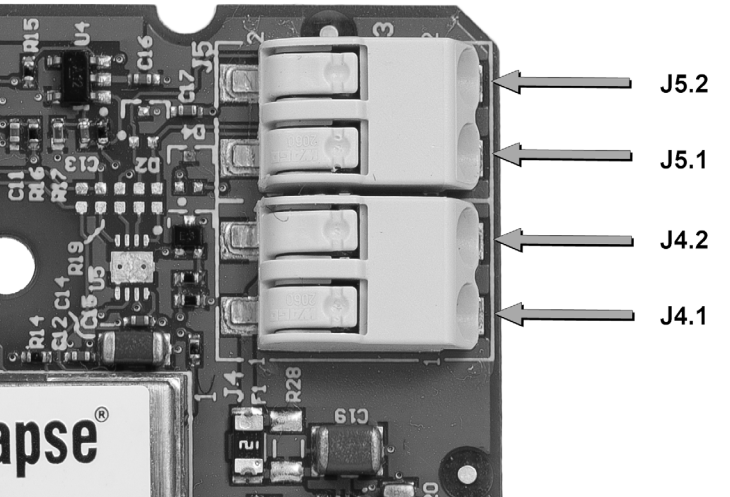

Figure 2- Terminal Block PINS
3. Connect the 5-24VDC Aux output from LED driver to terminal block pin J4.1 on the DIM10-087-00. (See Figure 2 to better identify terminal block pins.)